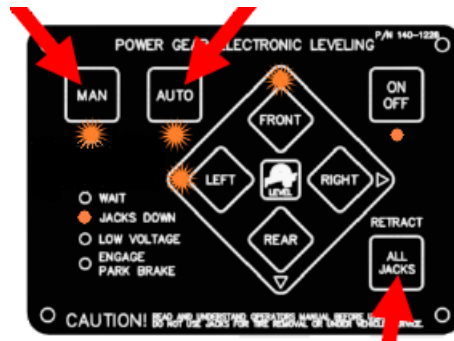

Figure 3 Sensor Override Mode:
4. To enter into **Sensor Override Mode** (see warning to the left) press the following 3 buttons at the same time: **MAN/AUTO/ALL JACKS RETRACT**. See **Figure 3**.